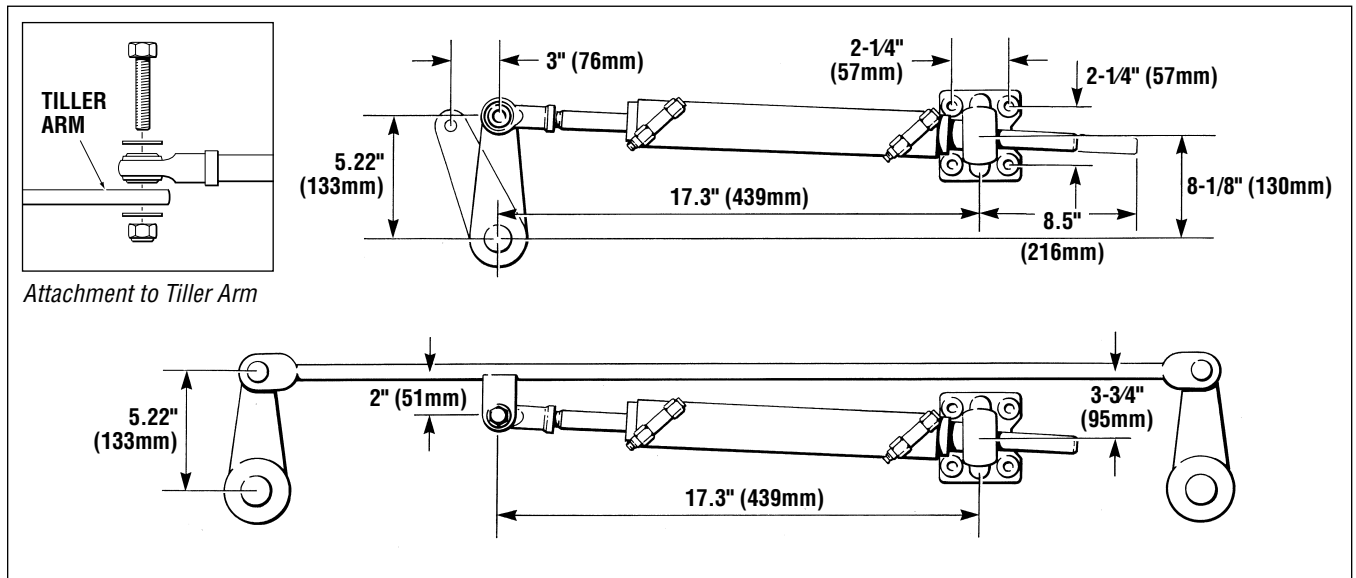

Figure 5.
4. Extend cylinder rod to arrive at 17.3" (439 mm) from center of rod end ball joint hole to the center of the mounting foot (as shown in figure 5 below).